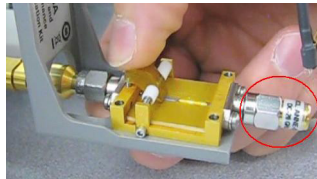

Figure 75 50Ω Terminator on N5443A
- a Connect a 50 ohm termination to the fixture as shown in **Figure 75**. The termination is provided with the N5443A.